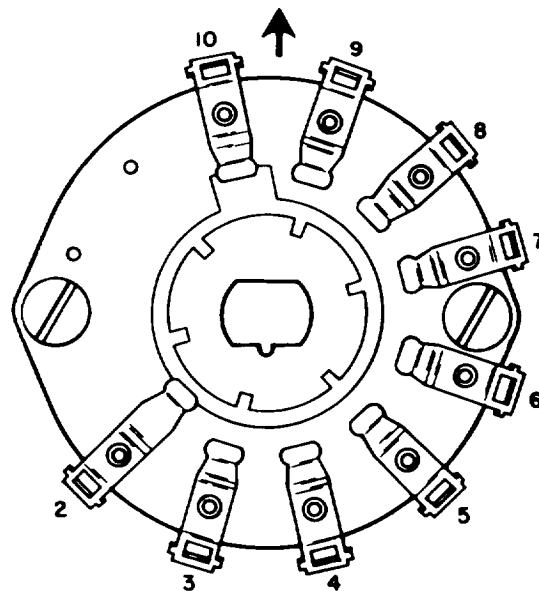

Figure 5-21. Mixing Frequency Selector Switch A2S4, Wafer Diagram
(5) Remove the two nylon screws (MP16 and MP17), four nylon washers, two ceramic spacers and the defective switch. Discard only the defective switch.
(6) Turn rotor of replacement switch to the position shown in figure 5-21, with the key oriented the same way as noted following step (4).
(7) Place one ceramic spacer A2MP14 and two nylon washers A2MP10 and A2MP11 between the replacement switch and the inside of the cavity cover. Position the ceramic spacer so that it aligns with the mounting hole on the replacement switch.
(8) Feed one nylon screw A2MP16 through the replacement switch, washers, and spacer and screw into mounting hole of the cavity cover. Do not tighten the screw.
(9) Insert the other ceramic spacer, washers, and nylon screw as in steps (7) and (8) and tighten both screws.
(10) Place the finger contact assembly A2E5 over the switch, such that its contacts are facing away from the cavity cover and the open hole is in line with the gearshaft.
(11) Turn the finger contact assembly so that its solder hole is in line with terminal 2 of the replacement switch. Terminal 2 is the common terminal and longer than the others. (See figure 5-21).
(6) Loosen the two setscrews on the bevel gear A2MP1.
(7) Slide the switch detent forward and, at the same time, slide the bevel gear towards the rear until the shaft clears the top of the nylon bevel gearshaft. As the bevel gear comes loose set it aside.
(8) Remove and discard the defective gearshaft. Save the shim washer A2MP41.
(9) Insert the replacement gearshaft through the shim washer, through the opening in the center of the cavity cover, and through the switch A2S4. Turn the gearshaft slowly until the rotor of switch A2S4 is oriented as shown in figure 5-21.
(10) Place the switch detent over the top of the nylon gearshaft. Then place the bevel gear between the rear end of the shaft and the bearing on the cavity cover; orient it so that its teeth are facing the top of the nylon bevel gearshaft.
(11) Pass the shaft of the switch detent through the bearing in the cavity cover and secure the switch by means of the two screws and lock washers.
(12) Slide bevel gear A2MP1 forward until meshes with the top of the gearshaft and tighten both setscrews. This gear must be adjusted for smooth, easy rotation with minimum backlash.
(13) Replace spring A2MP40 and flat washer MP38 on switch detent shaft.
(14) Swing the front panel toward the front and up until it clears the front end of the shaft. Slide the shaft through the mounting hole.
(15) Place the knob A2MP7 on the shaft. Align it with the front panel so that it points to the 100 marking (this is its position when the cavity assembly and front panel are aligned as they will be when full assembled to the rear chassis). Tighten both setscrews.